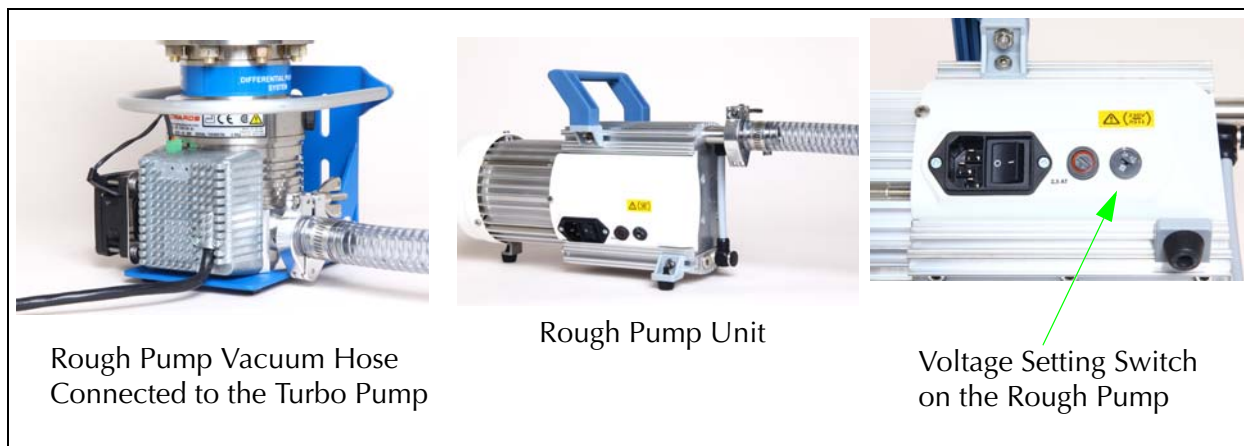

Figure 3-1 Rough Pump Vacuum line Connections
3. Connect the rough pump hose to the NW16 fitting on the bottom of the turbo pump using the O-ring and clamp provided. Connect the other end of the hose to the rough pump using similar hardware. Be sure the rough pump is set to the proper AC line voltage prior to plugging it into the power source. See Figure 3-1. Permanent damage to the pump motor may occur if the line voltage is not set correctly.